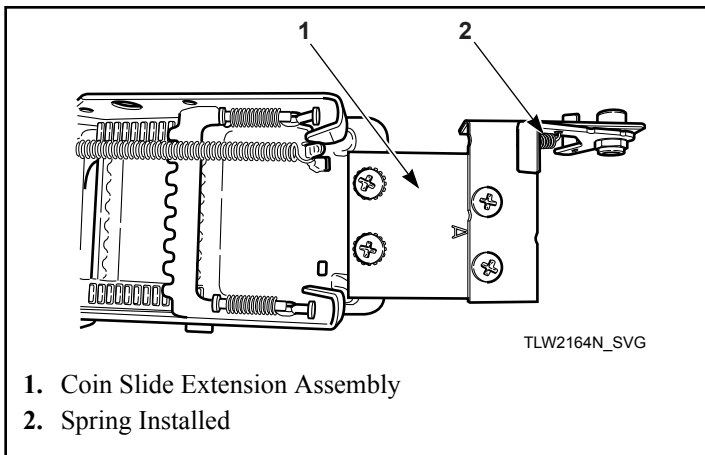

Figure 16
6. Install coin slide extension assembly onto top of coin slide using two remaining screws and lockwashers. Place lockwasher under head of screws, above bracket "A". Refer to *Figure 16*.
3. Install slide extension onto top of coin slide using two screws. Refer to *Figure 16*.